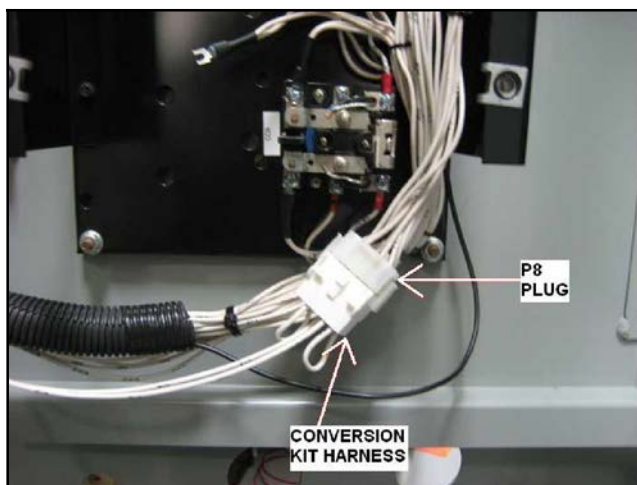

Figure 45 Connect Conversion Kit Wire Harness Connector P8 to Plug P8
40. Connect the conversion kit wire harness (GM77518 or GM77826) connector P8 to plug P8 that was disconnected from the upper board in the previous step. See Figure 45.